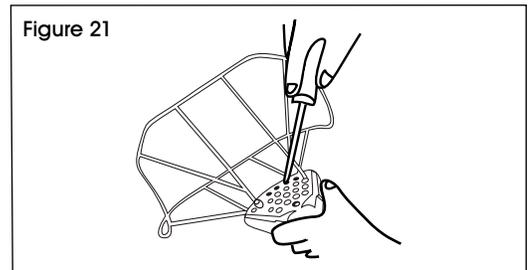

Figure 21
3. Attach cage assembly to the combustor using four mounting screws. (See Figure 21)